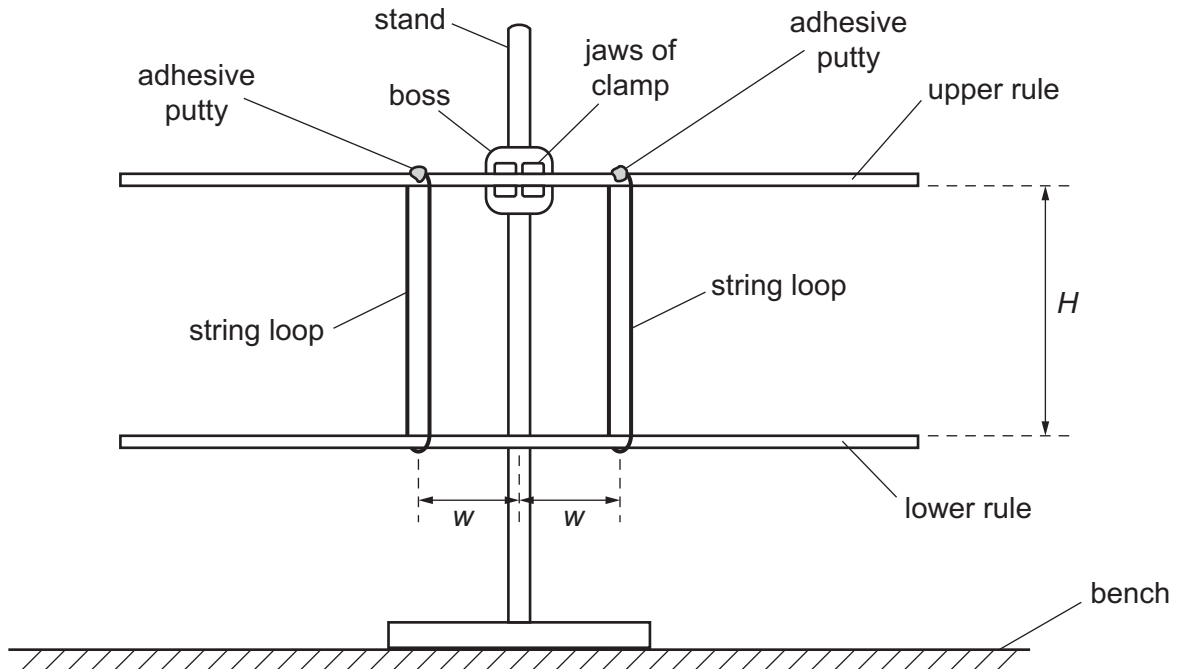

Fig. 1.1
- (a) • Set up the apparatus as shown in Fig. 1.1, with the scales on the metre rules facing upwards.
- (b) For both rules, the distance between the 50 cm mark and each string loop is w , as shown in Fig. 1.1.